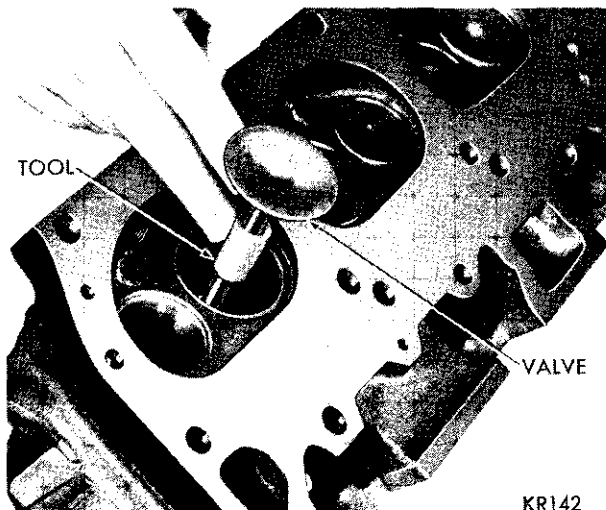

Fig. 9—Installing Valve and Tool C-3973
- (1) Clean valves thoroughly, and discard any burned, warped or cracked valves.
- (2) Measure valve stems for wear. Refer to specifications for proper size. If wear exceeds .002 inch, replace the valve.
- (3) Remove carbon and varnish deposits from inside of valve guides with a reliable guide cleaner.
- (4) Measure valve stem guide clearance as follows: Install sleeve Tool C-3973 over valve stem (Fig. 9) and install valve.